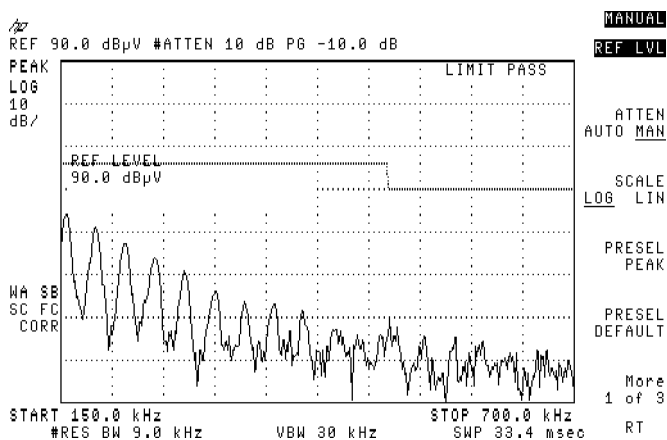

Figure 3-32. Adjusting the Amplitude Level
- 22. Press 90, **dB**. See Figure 3-32.